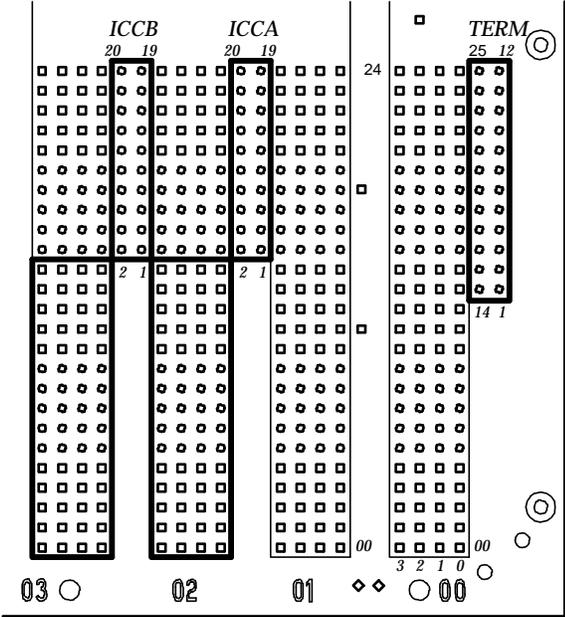

FIGURE 6-11. ICC Pin Blocks on J58890N Cabinet
2. See Note. Connect the ICC cables as shown in Table 6-F and Figures 6-11 and 6-12.